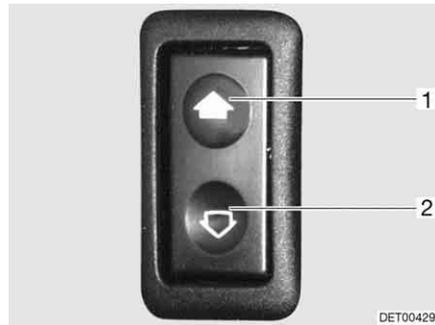

Fig. 29 Switch for electrical window winders
- Opening:* ■ Press lower part of the switch (Fig. 29,2).
- Closing:* ■ Press upper part of the switch (Fig. 29,1).